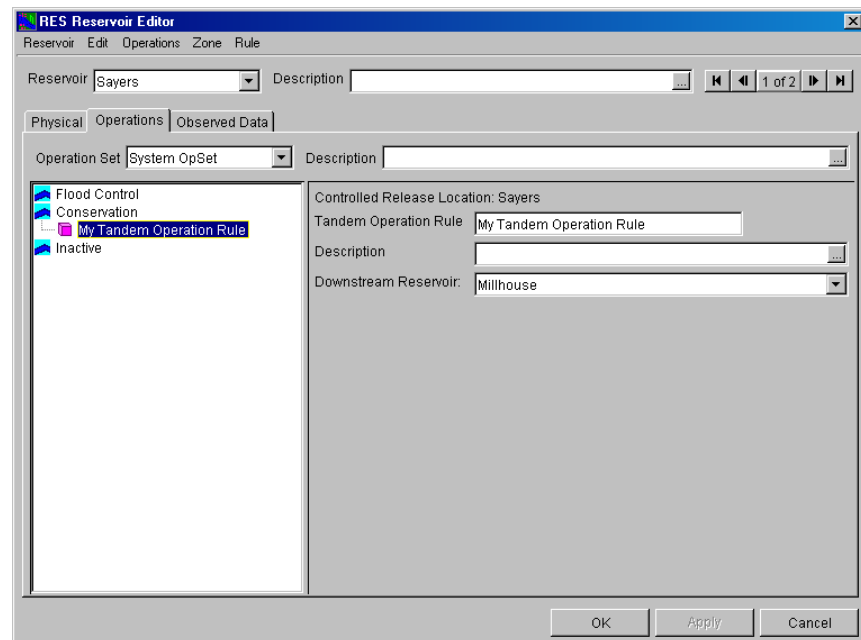

Figure 11.20 Reservoir Editor--Example of a Tandem Operation Rule
2. To define your Tandem Operation rule, highlight the rule in the operations tree of the reservoir editor (Figure 11.20). In the Edit Panel, you can change the name of the rule, enter a description, and most importantly select the downstream reservoir for which the current (upstream) reservoir is operating.